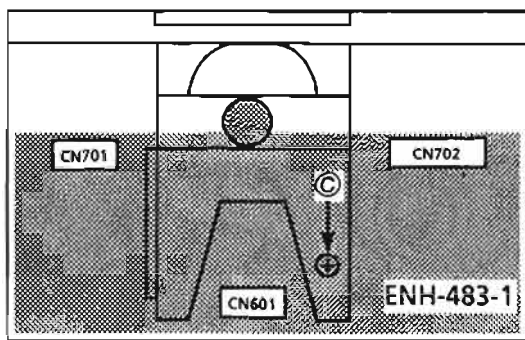

Fig. 3 UP SIDE
2. Remove the 2 screws ②. Disconnect the CN601. (Fig.3)
2. Disconnect the CN701 and CN702. (Fig.3)
3. Remove the 2 screws ④.
4. Release the hooks ⑤ holding the front panel, and remove the front panel assembly.